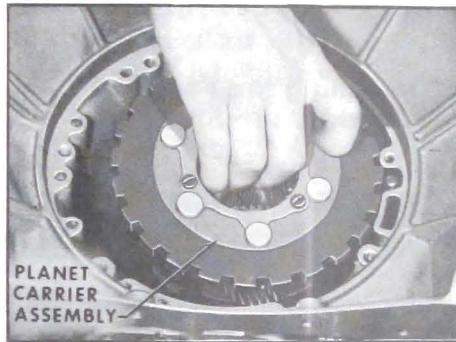

Figure 5-301
3. Install planetary gear set into case. See Figure 5-301.